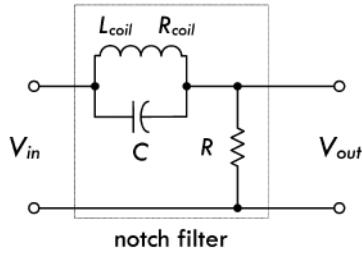

FIGURE 2.197 (Continued)
The notch filter in Fig. 2.197 acts to pass a wide range of frequencies, while attenuating (rejecting) a narrow band of frequencies.
**FIGURE 2.197** The notch filter shown here yields stopband characteristics similar to those of the previous notch filter. However, unlike the previous filter, as you approach the resonant frequency of the tuned circuit, the LC (RL coil) section's impedance gets large, not allowing current to be sent to the load. On either side of resonance, the impedance goes down, allowing current to reach load.
The attenuation versus frequency graph based on this equation is shown in Fig. 2.197.